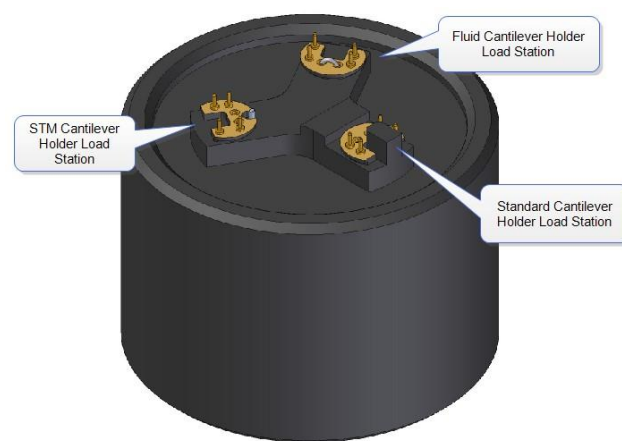

Figure 1. Probe holder
- 6) Loading the probe. The probe holder, Figure 1, should be in the black cylindrical